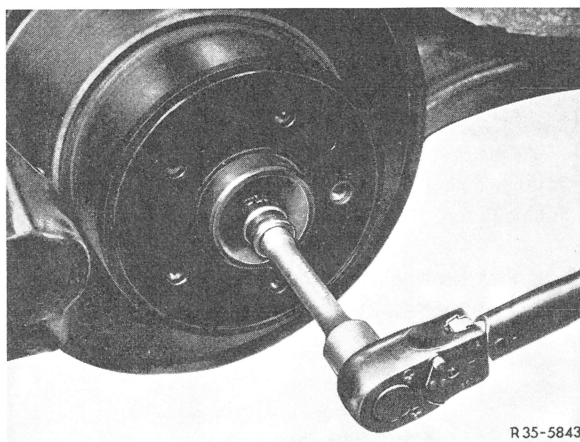

Fig. 2
- 1 Unscrew hex. bolt for attaching rear axle shaft to rear axle shaft flange (Fig. 2).